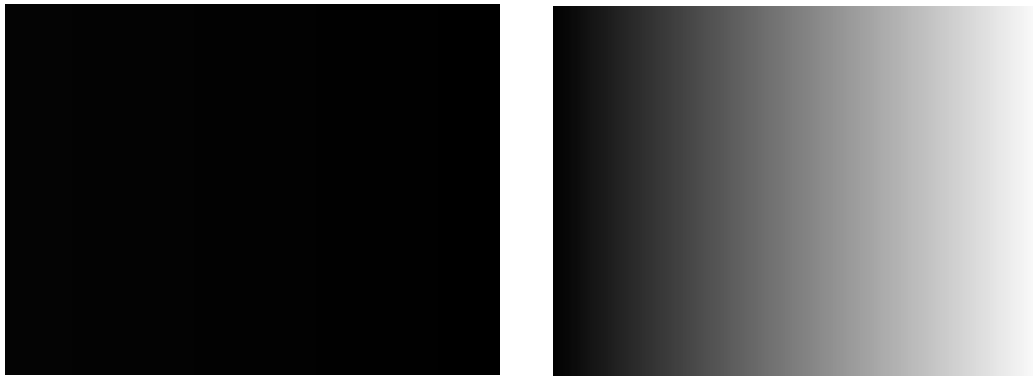

Figure 37 – Saving tif 10-bit image LSB (left) vs. MSB (right)
- Single .TIF file (MSB) – Single shifted uncompressed tif file containing complete video captured in allocated buffers. See Figure 37.
- Multiple .TIF files (MSB) – Series of shifted uncompressed tif files, one per each captured frame in allocated buffers. See Figure 37 .